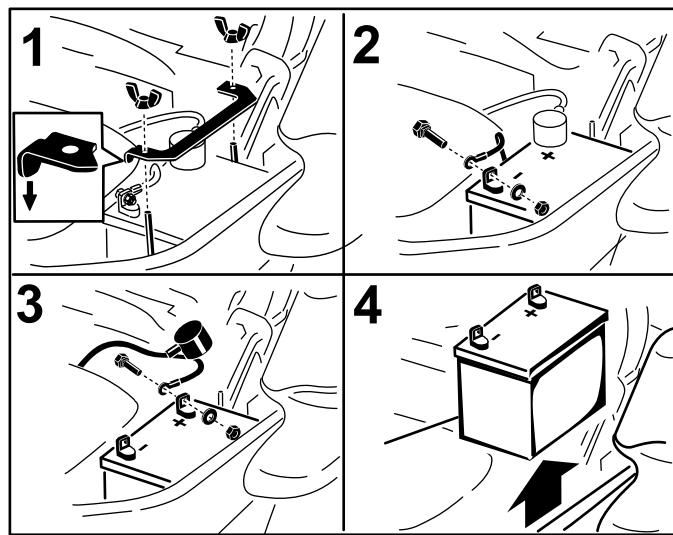

Figure 59
- First disconnect the negative battery cable (black) from the negative (-)(black) battery terminal (Figure 59).
- Slide the red terminal boot off the positive (red) battery terminal and remove the positive (+)(red) battery cable (Figure 59).
- Remove the wing nut securing the battery clamp (Figure 59).
- Remove the clamp (Figure 59).
- Position battery in the tray with the terminal posts opposite from the hydraulic tank (Figure 59).
- Secure the cables with 2 bolts, 2 washers, and 2 locknuts (Figure 59).
- Install the clamp and secure it with the wing nut (Figure 59).